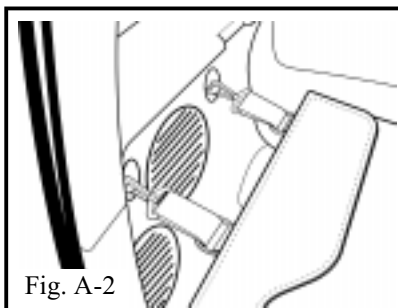

Fig. A-2
2. Flip open sides of cargo cover. Attach hooks to D-rings as shown. Repeat for other side of vehicle. (Fig. A-2)